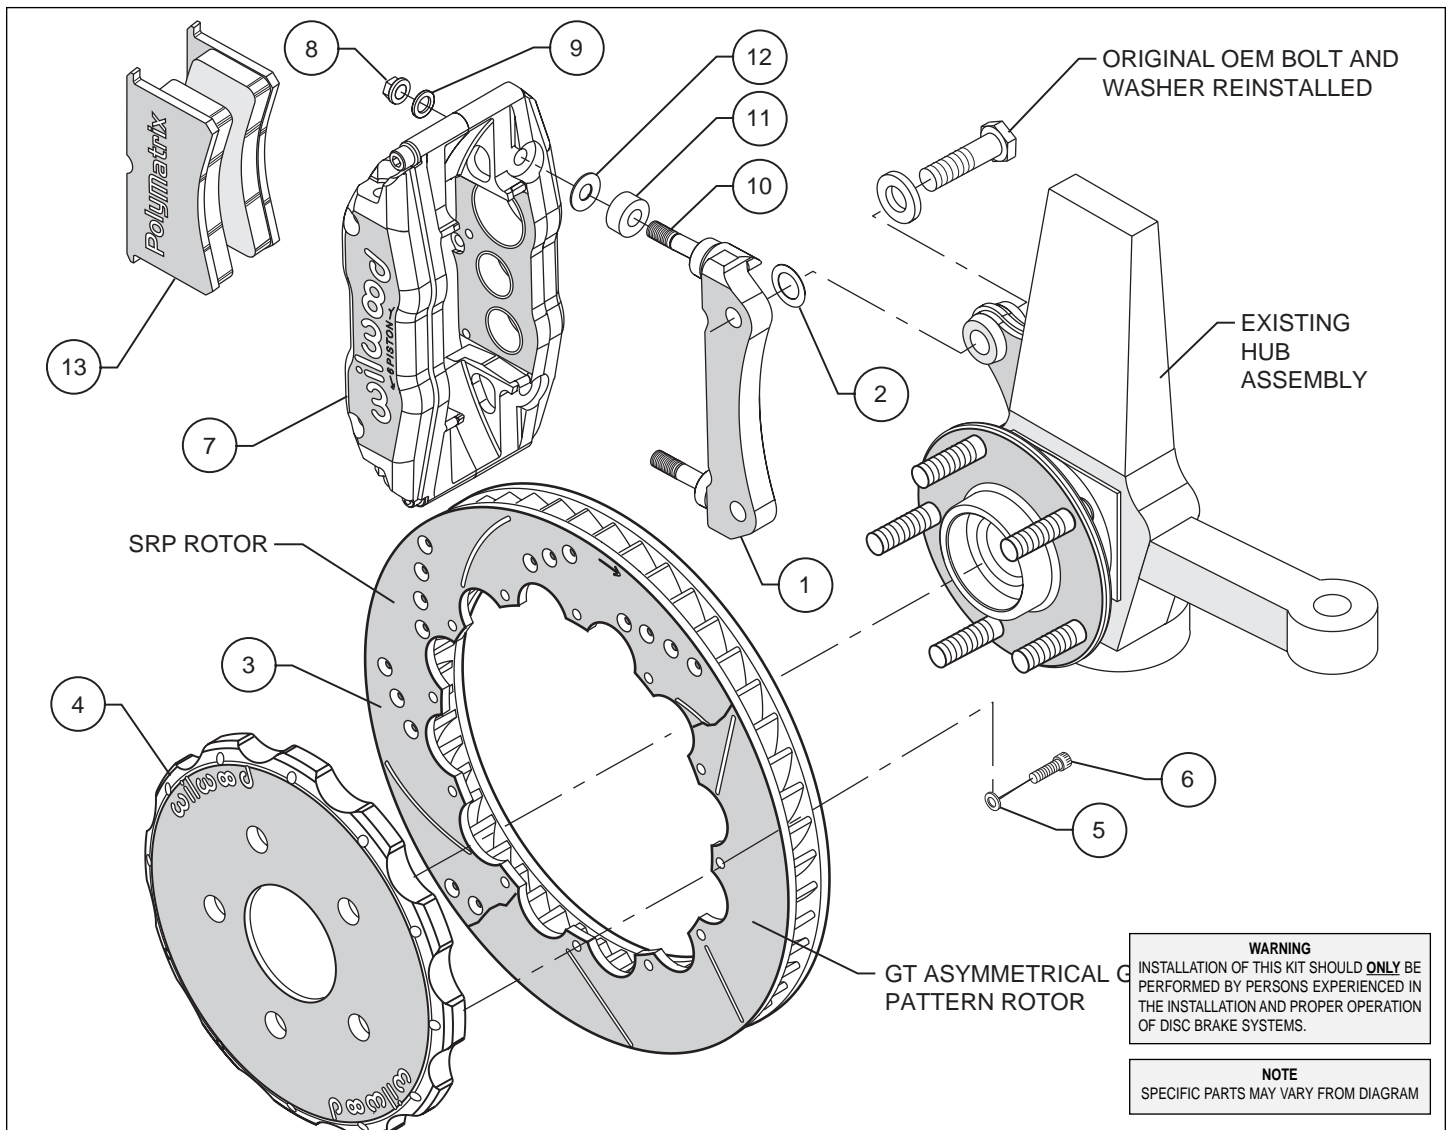
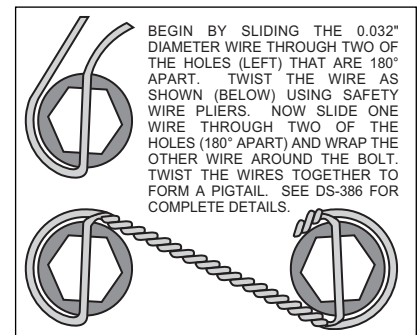

Figure 1. Typical Installation Configuration
Figure 3. Safety Wire Diagram
- The caliper mount bracket assembly (1) should be installed first with clean, dry threads on the mounting bolts. Install the bracket using the original caliper mount bolts. The bracket must tighten squarely against the outboard side of the caliper mount bosses on the spindle body. Inspect for interference from casting irregularities, machining ridges, burrs, etc. Use one thin shim (2) between the bracket and spindle during initial trial fitting. Later, after the caliper, pad, and rotor alignment has been checked, and any necessary shims have been put in place, the mount bolts should be coated with red *Loctite*® 271 and torqued to 65 ft-lbs.
- Assemble the rotor (3) to the hat (4) with the bolts (6) and washers (5) provided in the configuration pictured in Figure 1. Be sure all bolts thread in smoothly and are snug. Then, torque all bolts in an alternating sequence to 85 **in-lbs**. The rotor mounting bolts (6) must be lockwired using standard 0.032 inch diameter stainless steel safety wire as shown in Figure 3. Please refer to Wilwood's data sheet DS-386 (available at www.wilwood.org/ds386.pdf) for complete safety wire installation instructions.
- Install spacer (11) and one shim (12) over each stud (10) on the radial mount bracket (1). Slide the caliper (7) in place over the studs and rotors and install the washer (9) and lock nut (8) to hold the caliper in place. The caliper bleed screws should be pointing up. Snug the lock nuts (8) and check that the rotor (3) is centered in the caliper (7). Add or subtract .035" shims (2) as necessary between the mount bracket and the spindle to center the caliper.